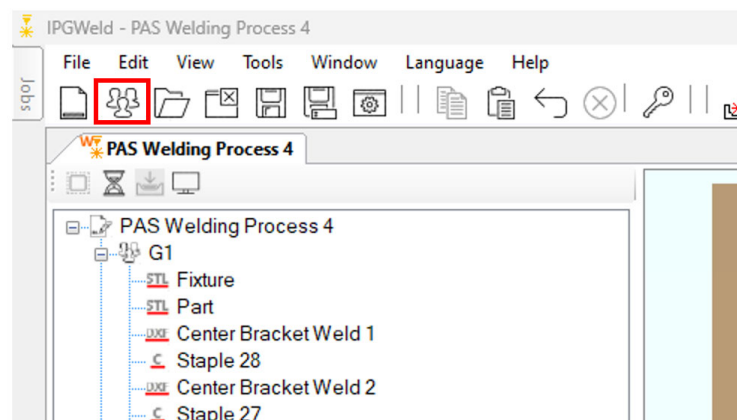

Figure 338: New Group Button
8. Create new Groups by clicking the Create Group button in the Tool Bar. See Figure 338 (below).